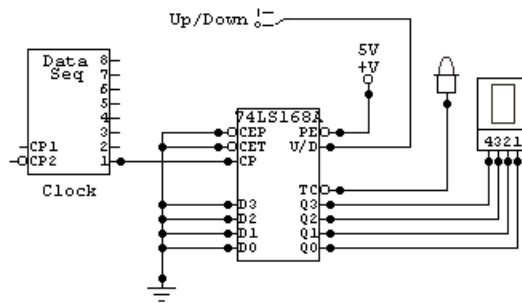

Figure 3.11. BCD Counter Circuit.
- 3 Draw the circuit shown in Figure 3.11 using the following devices:
- +V [Analog/Power] (1)
- Logic Display [Displays/Digital] (9)